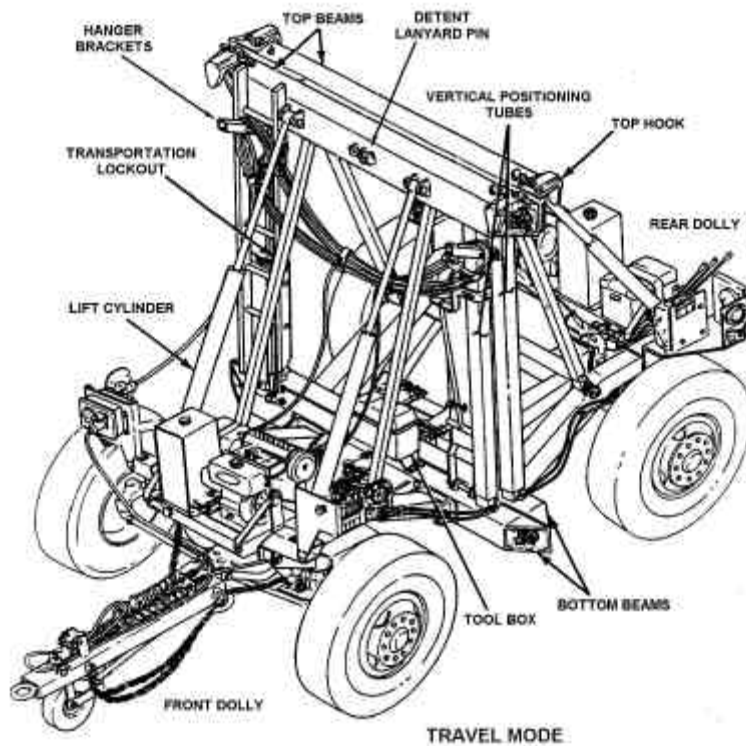

Figure 2
2. From the transport or travel mode (Figure 2) perform operations needed to detach front and rear dollies (Refer to Appendix A).